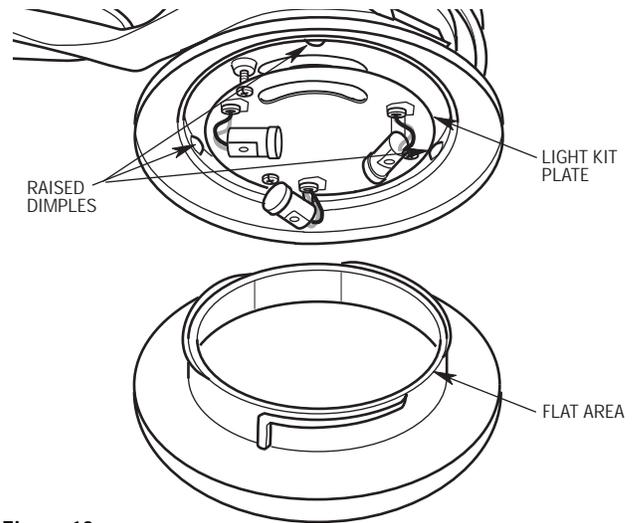

Figure 13
2. Place the glass bowl into the opening in the light kit plate, aligning the three flat areas on the top edge of the glass with the three raised dimples on the light kit plate and turn the glass bowl clockwise until it stops (Figure 13).